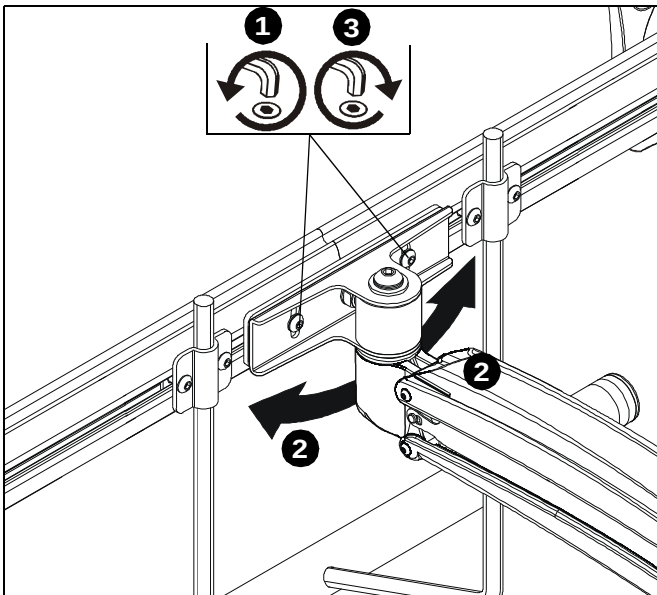

Figure 18
1. Loosen roll adjustment screws on back of array bracket. (See Figure 18)
2. Adjust roll of array bar as desired. (See Figure 18)
3. Tighten roll adjustment screws on back of array bracket. (See Figure 18)